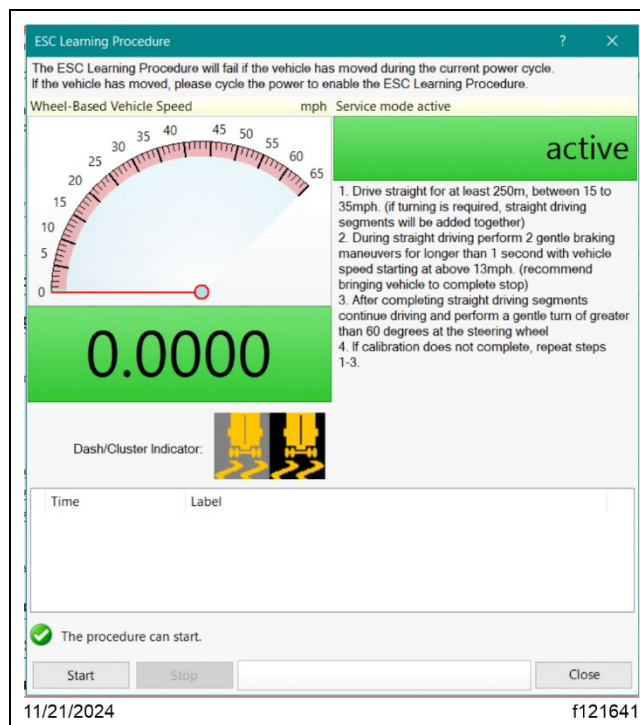

Fig. 61, ESC Calibration in DiagnosticLink
18. The ABS ECU is now in the ESC calibration mode. Use either WABCO TOOLBOX or DiagnosticLink to perform the ESC Calibration procedure. Complete the driving portion of the End of Line (EOL) procedure. After approximately 100 yards of straight-line driving and then a 90- to 180-degree turn is recorded by the ABS ECU, the stability lamp on the dash will turn off. See Fig. 61.